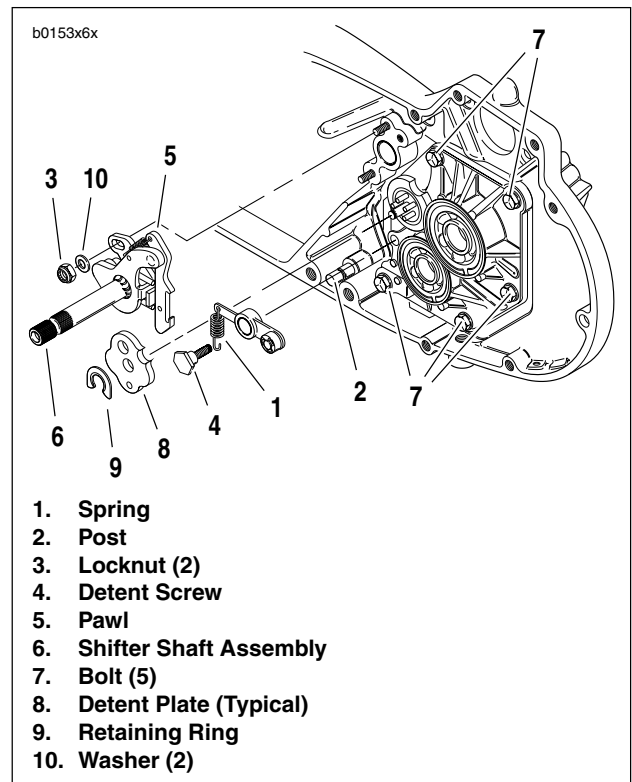

Figure 6-27. Shifter Shaft Assembly
12. See Figure 6-27. Detach spring (1) from groove in post (2).
13. Remove retaining ring (9) and detent plate (8). You will need to use a **new** retaining ring for installation.
14. Remove two locknuts (3) and washers (10) which attach shifter shaft assembly (6) to studs at transmission case. Remove shifter shaft assembly.
15. Remove five access door bolts (7). Remove transmission assembly by pulling it straight outward, away from transmission case.